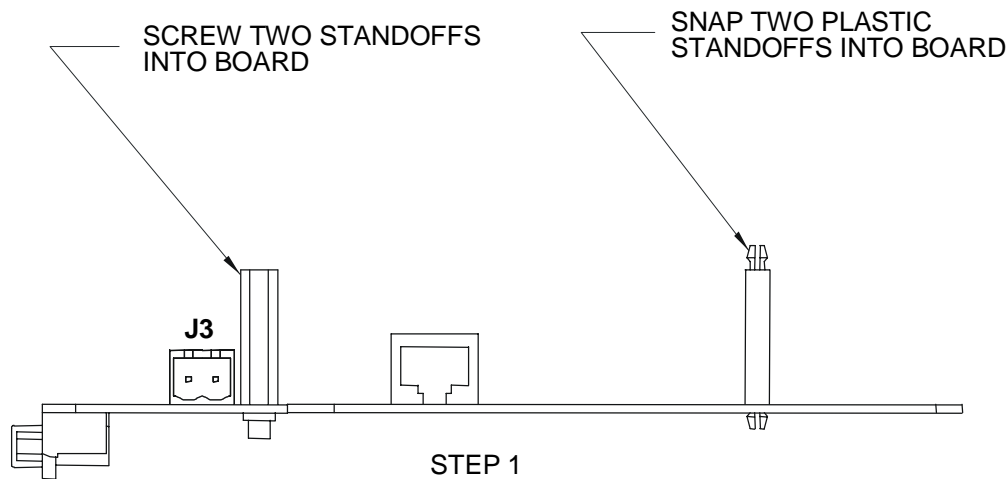

Figure 8.3 – Installing GEN250
- a. Screw the two threaded metal standoffs into the board on the component side. (See Figure 8.3.)
22. Plug the supplied 2-Wire power cable into the connection J3 on the GEN250. (See Figure 8.3 for J3's location.)